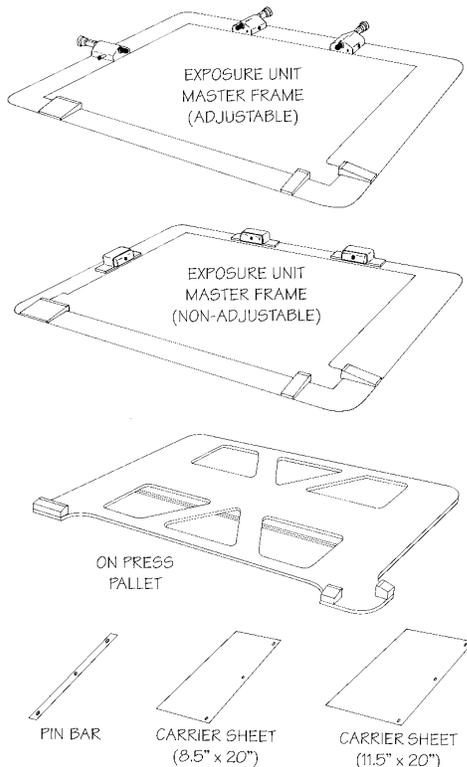

Figure 1
**SYSTEM COMPONENTS:** (See Fig. 1)